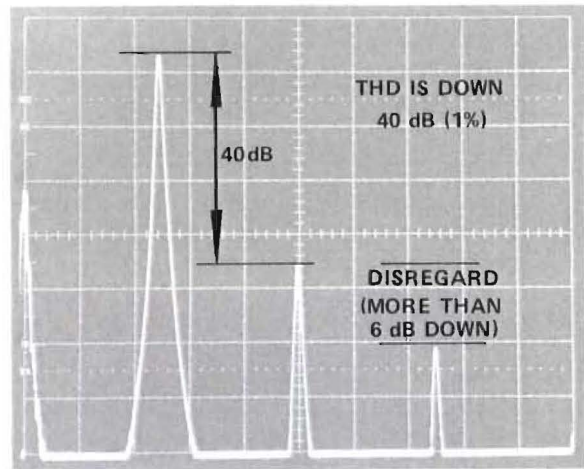

Figure 22 Calculating Percentage of Total Harmonic Distortion
5. THD (Total Harmonic Distortion)⁶ is calculated by comparing the reference tone level to the RMS sum of all harmonic levels. The sum of the harmonics can be determined by using the chart in Figure 21. If all other harmonics are 6 dB or more down from the 2nd harmonic, one can disregard the higher order harmonics and use only the second to obtain an accurate THD figure (see Figure 22).